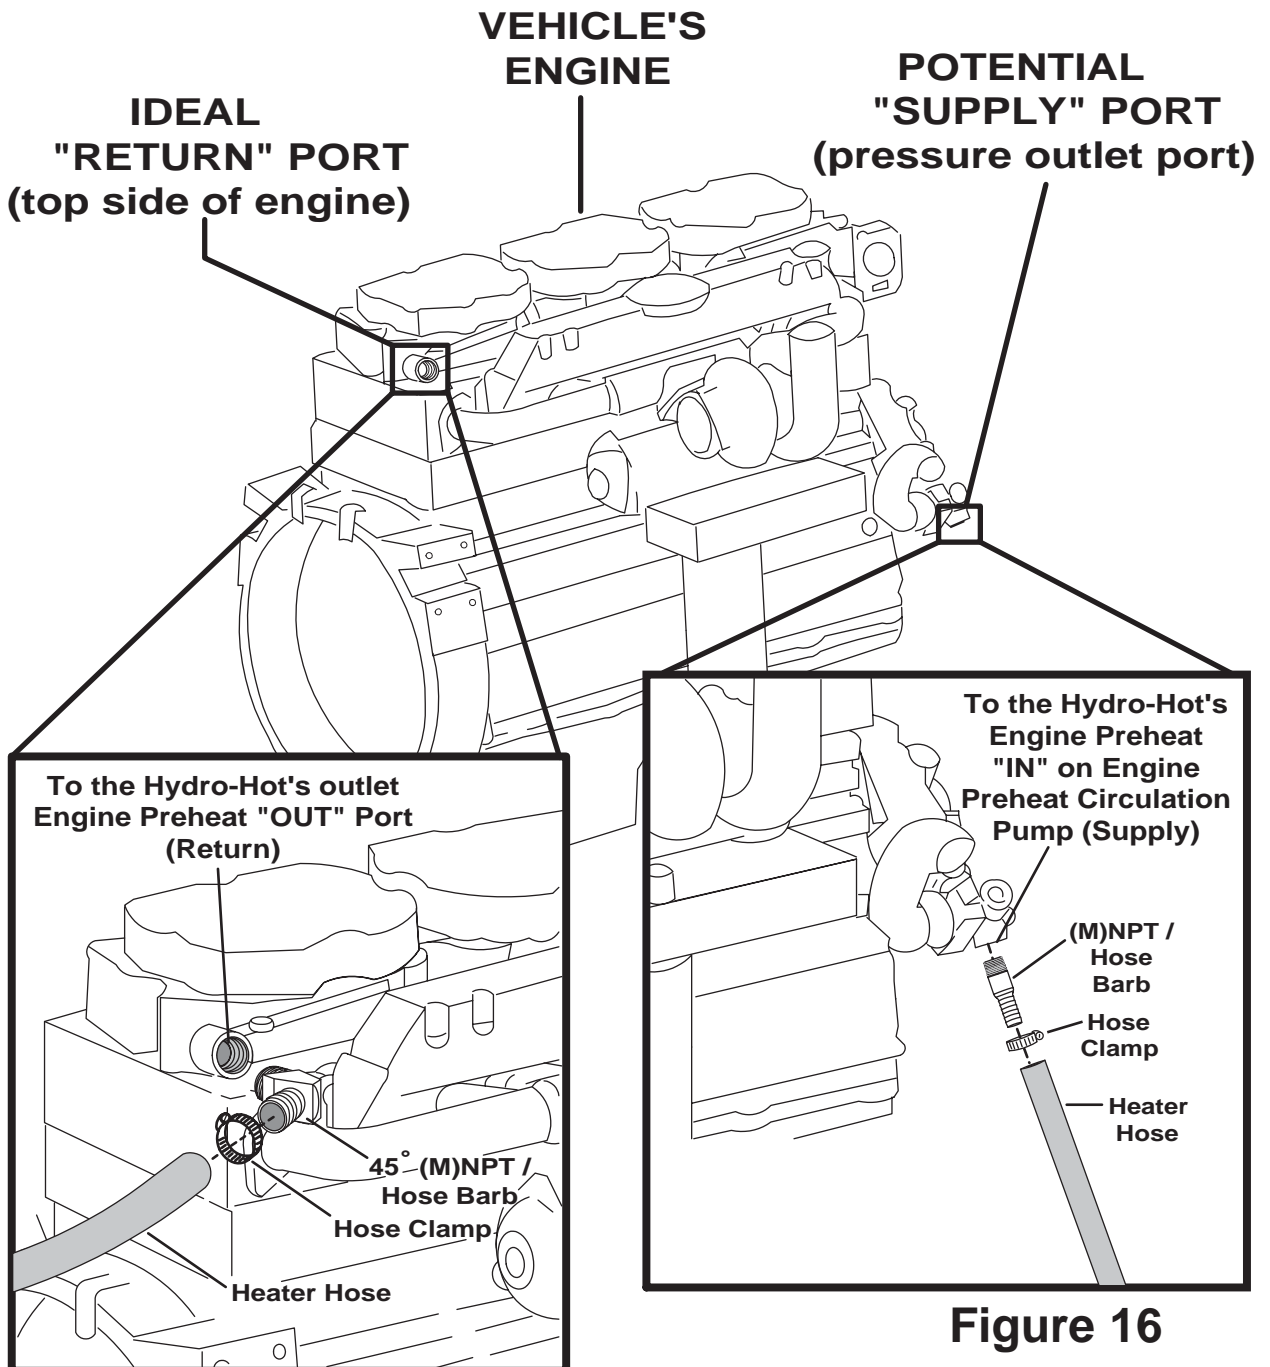

Figure 16
- A. The **Supply** and **Return** ports on the vehicle's engine should be kept as far apart as possible. This will ensure that the entire engine is thoroughly preheated, see Figure 16. If you need assistance in determining the best **Supply** and **Return** ports for a specific engine, please contact us directly.
2. The engine's **Return** port receives the heated coolant back to the Engine Block from the Hydro-Hot. This port should be a **high** connection point on the Engine Block or a **suction port** on the engine's Water Pump, see Figure 16.
3. The engine's **Supply** port supplies the engine's coolant to the Hydro-Hot's Engine Preheat Circulation Pump (HHE-200 Models) or to the Hydro-Hot's Motoraide "IN" connection (HHE-500 Models). This port should be a **low** connection point on the Engine Block or a **pressure outlet port** on the Engine's Water Pump, see Figure 16.
5. Install and clamp both the **Supply** and **Return** engine Plumbing Lines / Heater Hose to the Engine's Plumbing Fittings, see Figure 16.